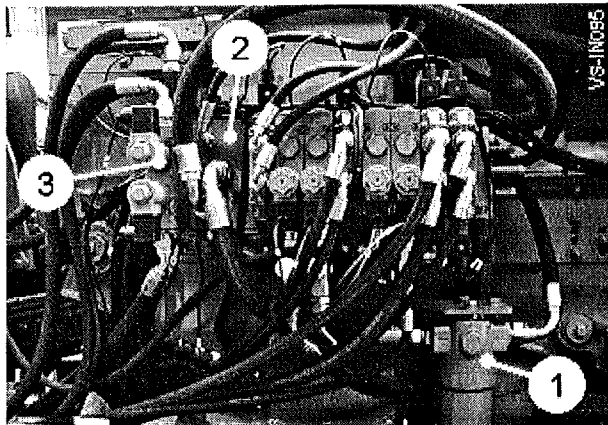

Fig 30
The hydraulic ram services and discharge elevator drives are supplied with hydraulic oil from the tractor. A minimum supply of 50 litres/minute is fed through the pressure filter (item 1, fig 30) into the flow divider section of the auxiliary valve bank (item 1, fig 30). The system will accept up to 80 litres/minute maximum. The valves for the digger lift rams, elevator swan neck and cleaner lift are proportionally controlled from the electrical system. The proportional valve (item 3, fig 30) which controls the discharge web and spreader motors has priority over the ram service valves. The flow rate through each ram service valve is controlled by the spool size and the individual flow settings. The return oil flow from the valves and motors recombines and is returned to the tractor, ideally through a low back pressure or free-flow return coupling. No separate relief valve is fitted to the circuit, the system relies totally on the tractor relief valve. The valve block is capable of operation with open, closed centre or load sensed tractor systems.
Pressure filter elements (item 1, fig 30, 37, 38, 39) should be replaced after the first 50 hours running time and then every 500 hours or annually thereafter.
2. In the case of the auxiliary circuit pressure filter (item 1, figure 30), operate the spool valve feeding the harvester to release any residual pressure and then disconnect the feed hose from the tractor.